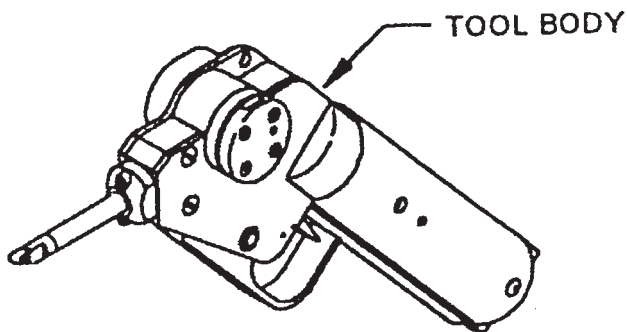

Figure 7-25. Pneumatic Safety Cable Application Tool
c. Pneumatic Safety Cable Tool. (Figure 7-25.) Confirm that the tool is set-up correctly and calibrated. Connect the pneumatic safety cable application tool to a clean dry air supply of 80 to 100 psi.
(1) Install the safety cable through the components, which are to be secured.
(2) The tool nose can be rotated to any convenient position.
(3) Insert the free end of the cable through the ferrule in the cartridge, and remove the ferrule by pulling the cable away from the end of the cartridge. Insert the free end of the cable through the nose of the tool, and slide the tool along the cable to the desired position.
(4) Rotate the cable tension wheel clockwise if necessary to move the cable entry slot to an accessible position. Align the nose such that the ferrule is pressed square against the component being secured. Make certain the ferrule is fully seated in the tool nose. Insert the free end of the cable into the cable entry slot of the cable-tensioning wheel. When the end of the cable exits the wheel, grip the slack from the cable. Do not leave more than 1 1/2 inch of total slack in the cable.
(5) Press the trigger and hold. The tool will apply tension to the cable, crimp and cut. When the trigger is released, the crimp mechanism will retract (after the cycle is completed). The tool nose can then be removed from the ferrule, and the excess cable discarded.